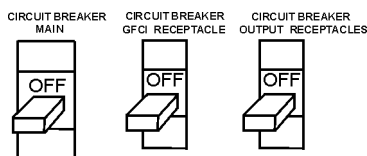

Figure 18. Main, GFCI and Load Circuit Breakers
1. Be sure to disconnect the electrical load and switch the **main**, **load** and **G.F.C.I.** circuit breakers (Figure 18) to the "OFF" position prior to starting the engine.